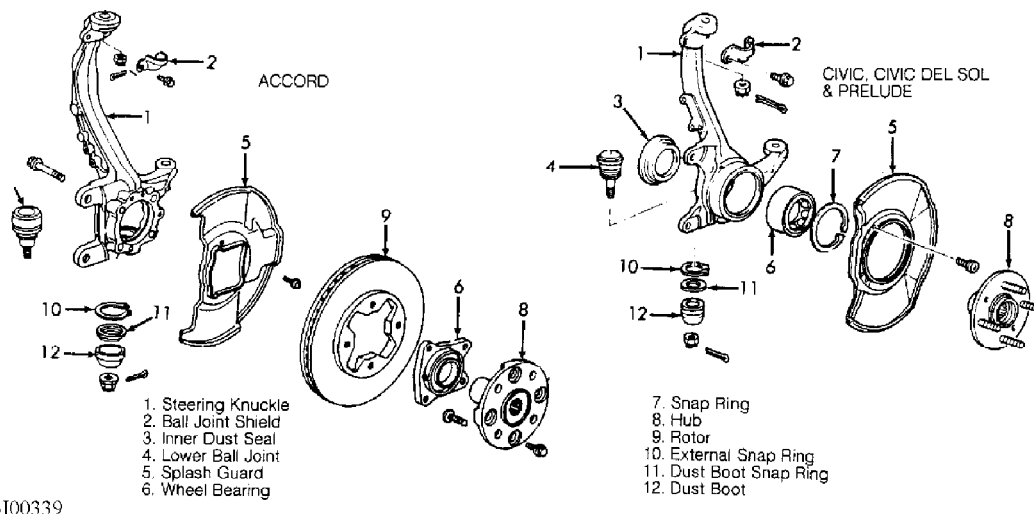

Fig. 2: Exploded View Of Steering Knuckle
4) Remove upper ball joint shield. See Fig. 2. Remove cotter pin and upper ball joint stud nut. Using ball joint remover, separate ball joint from steering knuckle. Remove steering hub/knuckle assembly from axle shaft.